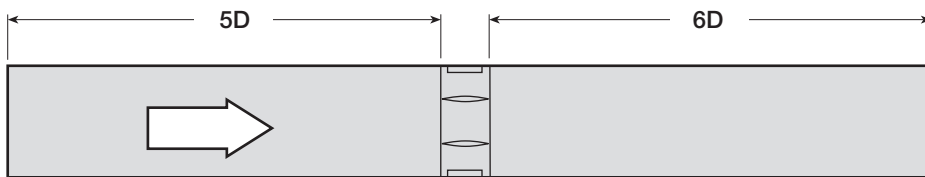

Figure 5.3
**Figure 5.3** illustrates a fully ducted damper. This configuration has the lowest pressure drop of the three test configurations because entrance and exit losses are minimized by straight duct runs upstream and downstream of the damper.
**AMCA Figure 5.3 Pressure Drop**